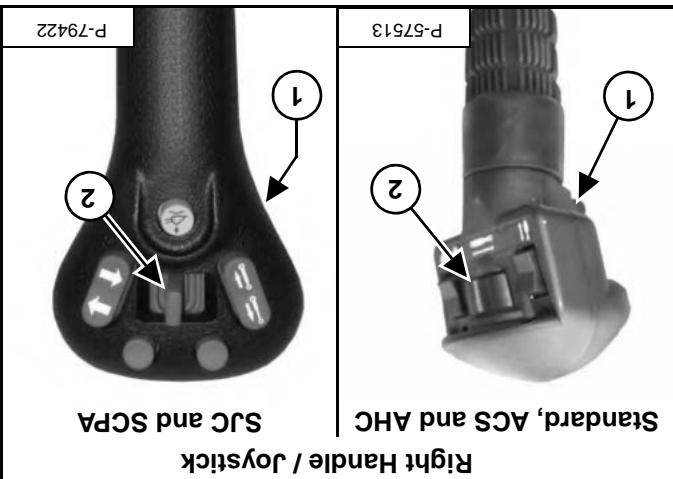

Figure 38
To stop anticlockwise rotation, press the switch (item 1) [Figure 38] a second time.
For continuous anticlockwise tiller rotation, press and hold the switch (item 1) [Figure 38] once. Release both switches and the tiller will continue to rotate in the anticlockwise direction.
Press the button (item 1) [Figure 38] for continuous clockwise tiller rotation. Press the button a second time to stop tiller rotation.